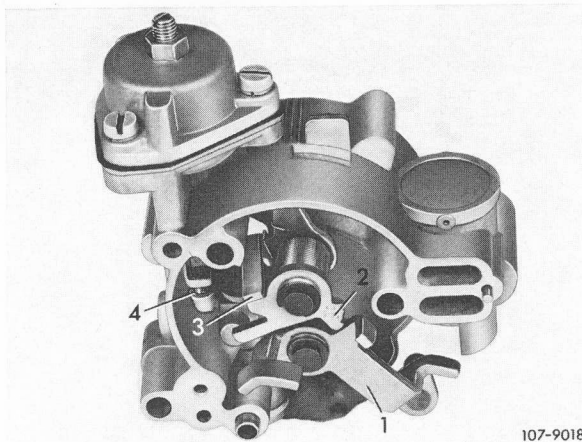

Fig. 17
To prevent overenrichment, the driver for the bimetallic spring (3) will be **automatically** pushed upwards via the starter lever (1) and the stepped disc (2) (Fig. 17).